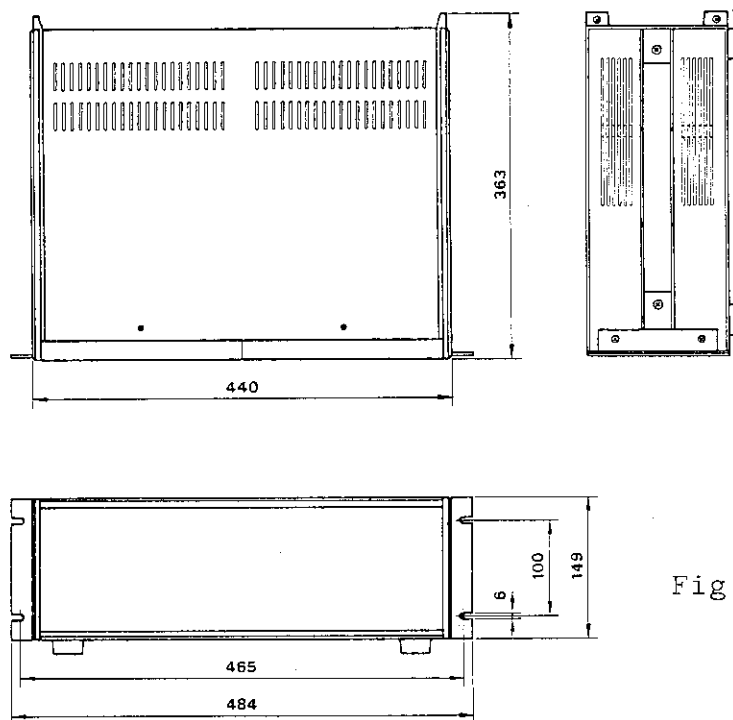

Fig. 33 9402 External Dimensions
- o Designed to be mounted in a JIS standard rack (Fig. 33).